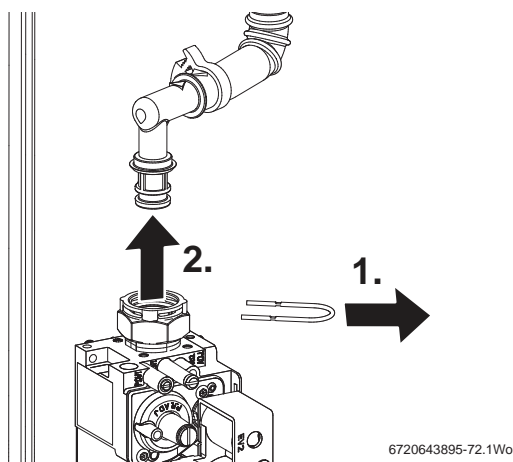

Fig. 89 Gas valve upper connection
Refer to figure 89
- ▶ Remove wire clip from gas valve outlet then pull gas pipe free from the gas valve (see figure 89).